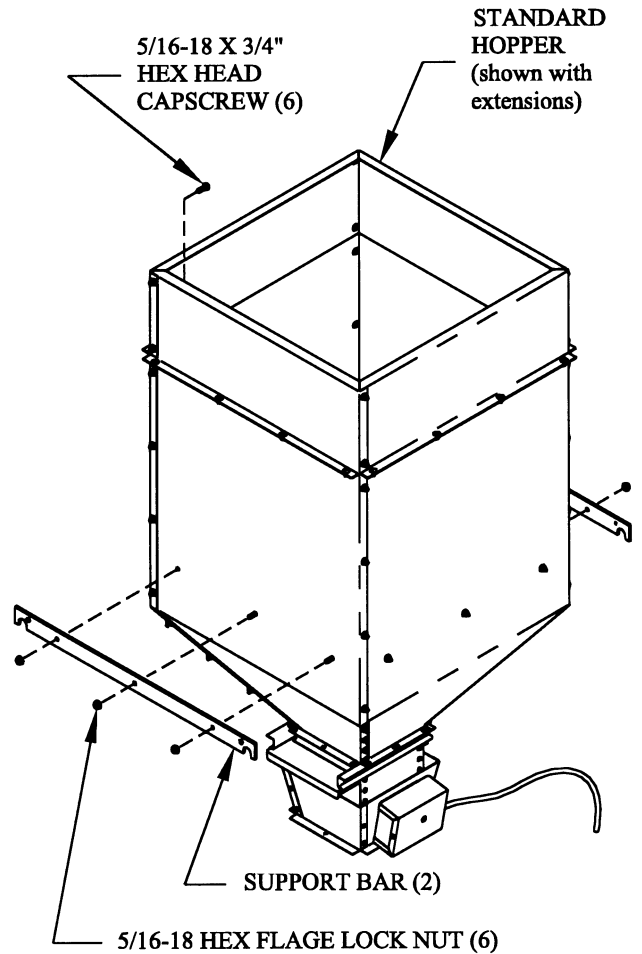
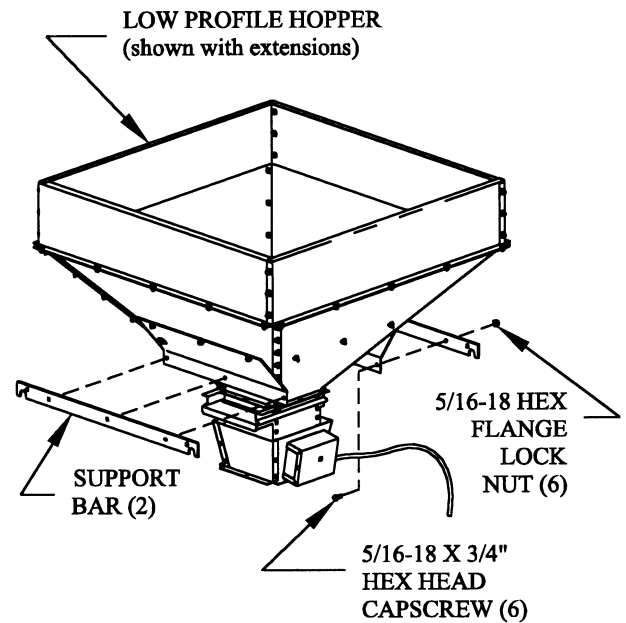

FIG. 15
FIG. 16
STEP 12. Attach the galvanized hopper support bars (included with scale) to the hopper. See Fig. 15 (for standard hopper) or Fig. 16 (for low profile hopper).